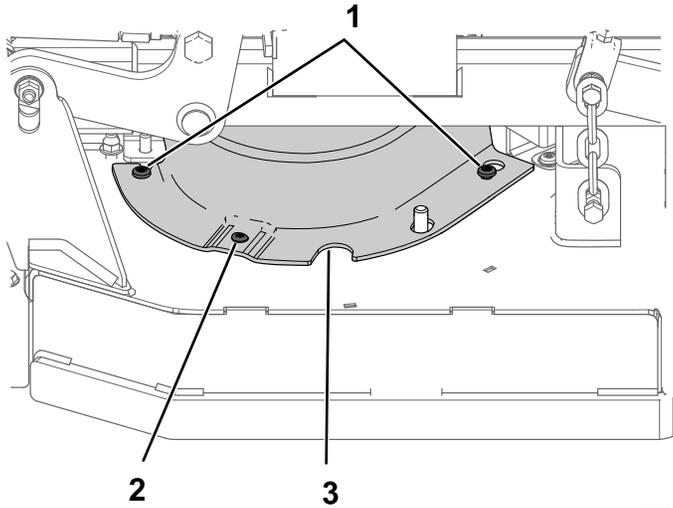

Figure 31
1. Loosen the 2 shoulder bolts and the screw (Figure 31).